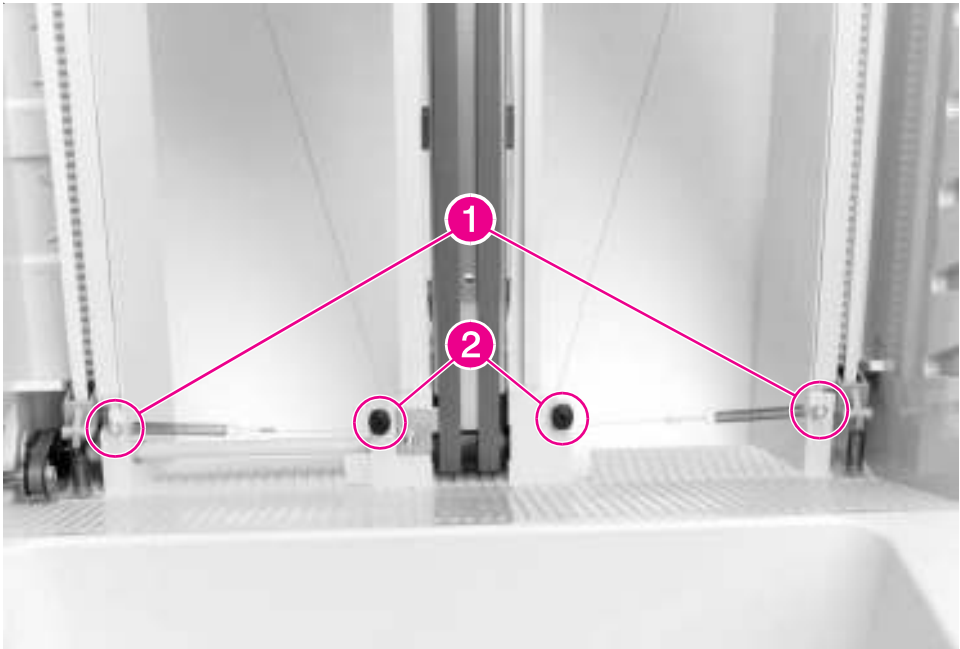

Figure 6-165 8-bin Mailbox Anticurl Strings (1 of 2)
- 2 At the lower-left side of the 8-bin Mailbox frame, locate the Tension Springs on the Anticurl Strings, and remove the 2 screws that secure the springs to the frame (Figure 6-165, callout 1).